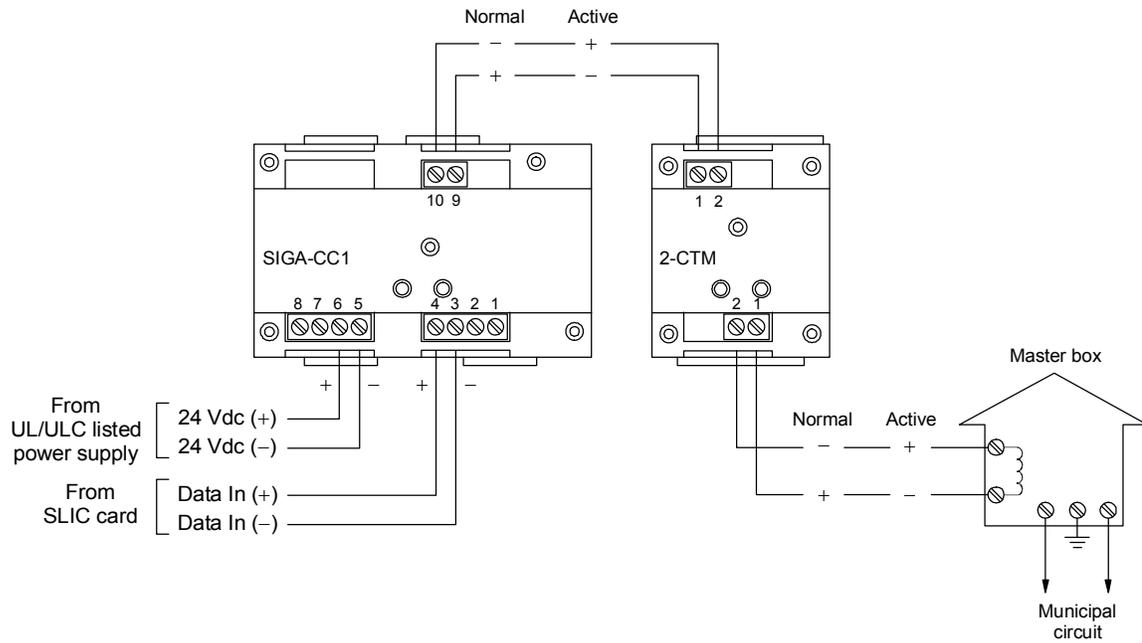

Figure 4-6: 2-CTM application wiring diagram
3. Wire the 2-CTM as shown in Figure 4-6.